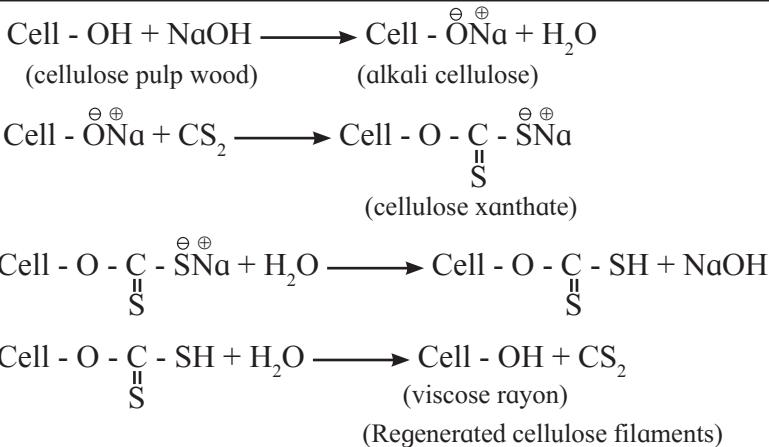

Fig. 15.7 : Formation of viscose rayon
15.3.10 Viscose rayon : Viscose rayon is a semisynthetic fibre which is regenerated cellulose. Cellulose in the form of wood pulp is transformed into viscose rayon. Cellulose is a linear polymer of glucose units and has molecular formula $(\text{C}_6\text{H}_{10}\text{O}_5)_n$. A modified representation of the molecular formula of cellulose Cell-OH, is used in the reactions involved in viscose formation, as shown in Fig. 15.7. Cellulose in the form of wood pulp is treated with concentrated NaOH solution to get fluffy alkali cellulose. It is then converted to xanthate by treating with carbon disulphide. On mixing with dilute NaOH it gives viscose solution which is extruded through spinnerettes